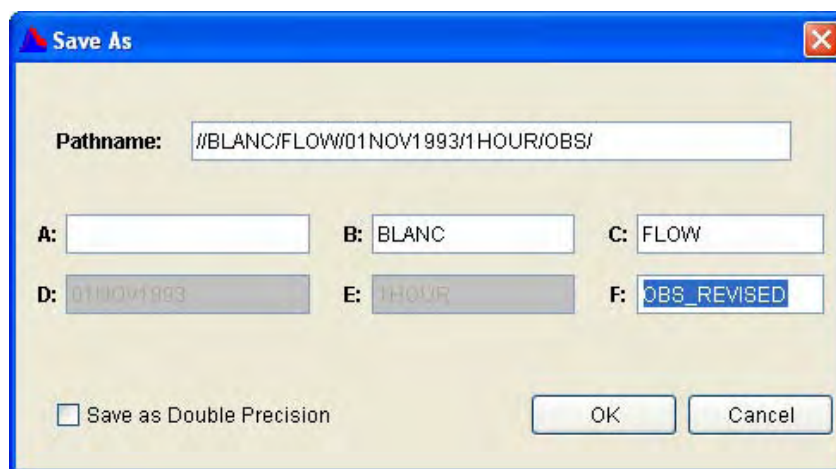

Figure E.13 HEC-DSSVue Save As Dialog Box
7. To save the new values as a new record, click the **Save As** button  (or select **Save As** from the **File** menu). A **Save As** dialog box will open, as shown in Figure E.13. Enter the new pathname information and indicate whether or not to **Save as Double Precision**. Selecting this checkbox will save data in a double precision format that provides a higher precision than the standard format. Double precision requires more disk space and some older programs that use DSS may not be able to access this data. Click **OK** to save the record.